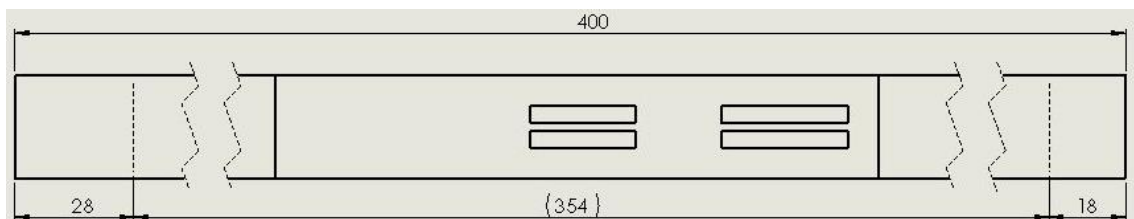
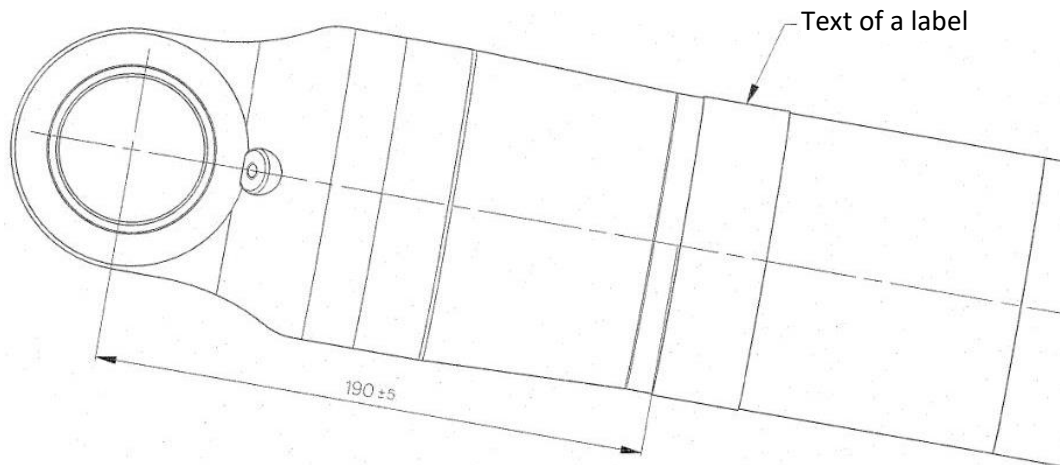

Fig. 1
Fig. 3
- Trim the identification label to a length of 354 mm according to the Fig. 1. Use the relevant identification label from material of point 3.A. of this bulletin.
- Measure and mark the place for sticking of the label on the swing arm pos. 4, MM, Chap. 032.10.00, Fig. 1, page 2 according to the Fig. 3 of this bulletin.
- Remove the label and apply contact adhesive Chemopren Extrem or equivalent, e.g. Scotch Weld EC 847 or EC 1300L on both bonded surfaces. Stick the label on according to the Fig. 3 and press all around.